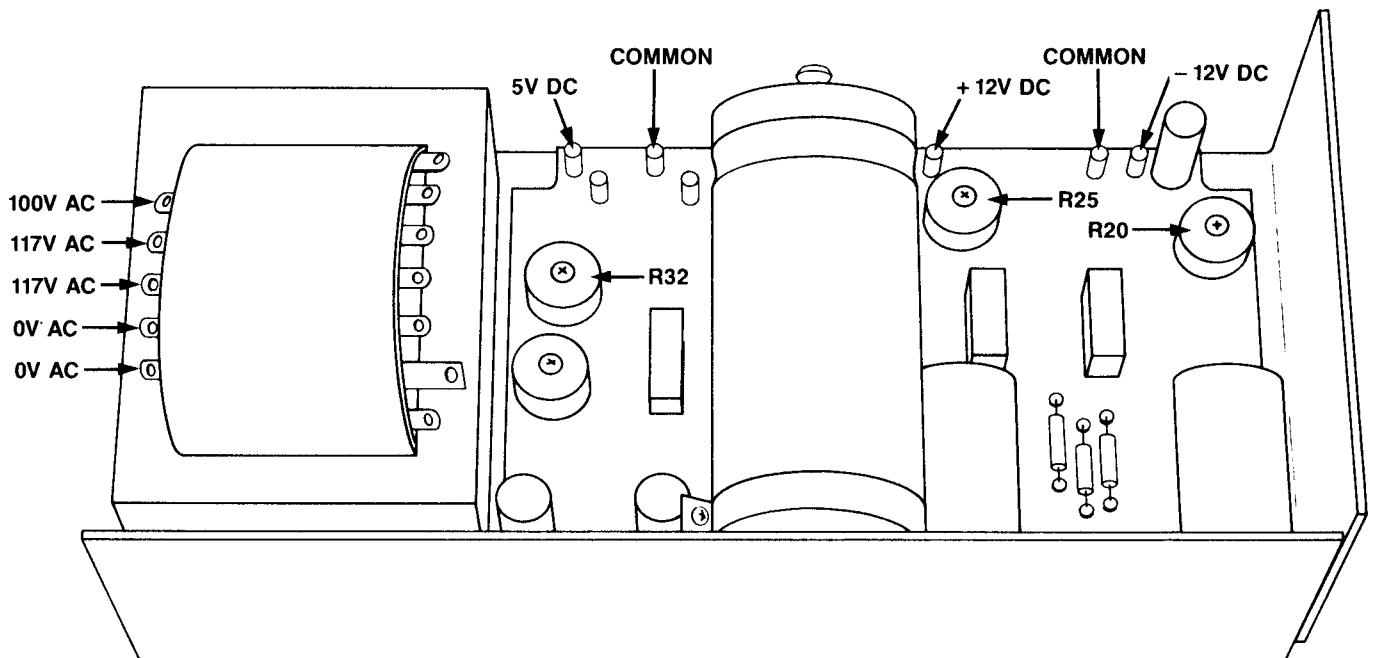

Figure 11. Concept Power Supply Test Points and Adjustments
1. If the DC voltages are not present, check to see if the muffin fan is turning. This indicates that the line voltage is present. If the fan does not turn, check the primary windings of the transformer with an AC voltmeter. (See Figure 11.) This voltage should be equal to the line voltage.